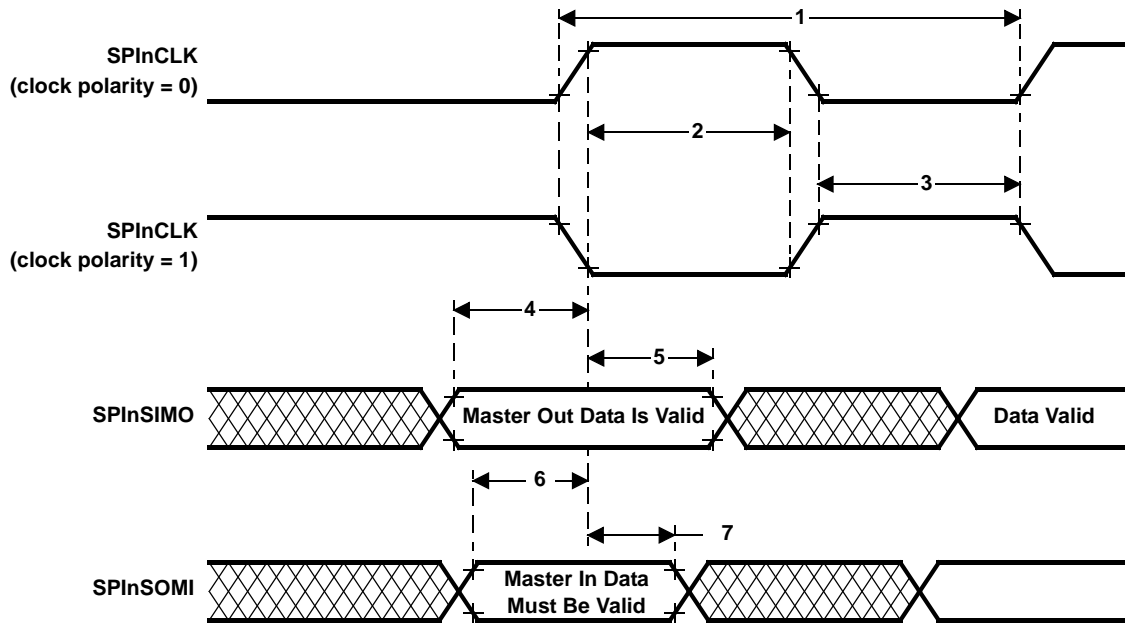

Figure 12. SPIn Master Mode External Timing (CLOCK PHASE = 1)
**SPI master mode external timing parameters (CLOCK PHASE = 1, SPInCLK = output, SPInSIMO = output, and SPInSOMI = input)†‡§ (see Figure 12)**